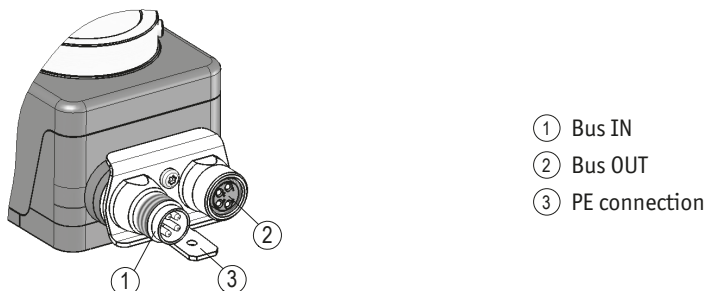
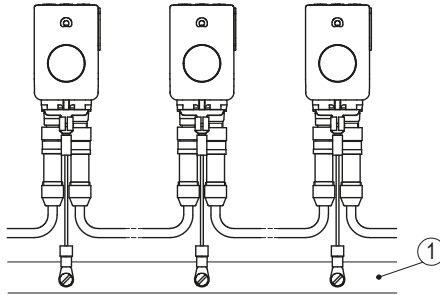

Fig. 6: Pin assignment
Fig. 7: Ground bar
Potentially live contacts must be protected against touch. Therefore, take care that the position indicator is connected via the "Bus On" connection (see Fig. 6). This ensures protection of the live contacts on "Bus Off" by means of the jack (for the IP type of protection, please refer to chapter 4.1).
- ① Bus IN: Pin 4 pin M8 (see Fig. 6).
- ② Bus OUT: Female 4 pin M8 (see Fig. 6).
For protection against interference, the screens of the signal lines and the power line must be connected on both sides. Potential differences cause inadmissible currents on the screen. Install the PE connection ③ onto the protective earth conductor potential between the plug connectors (see Fig. 6). Use 6.3 mm flat connectors with short strands  $2.5 \dots 4 \text{ mm}^2$  (not in the scope of delivery). For multiple position indicators we recommend connecting the earthing to a ground bar ① (see Fig. 7).